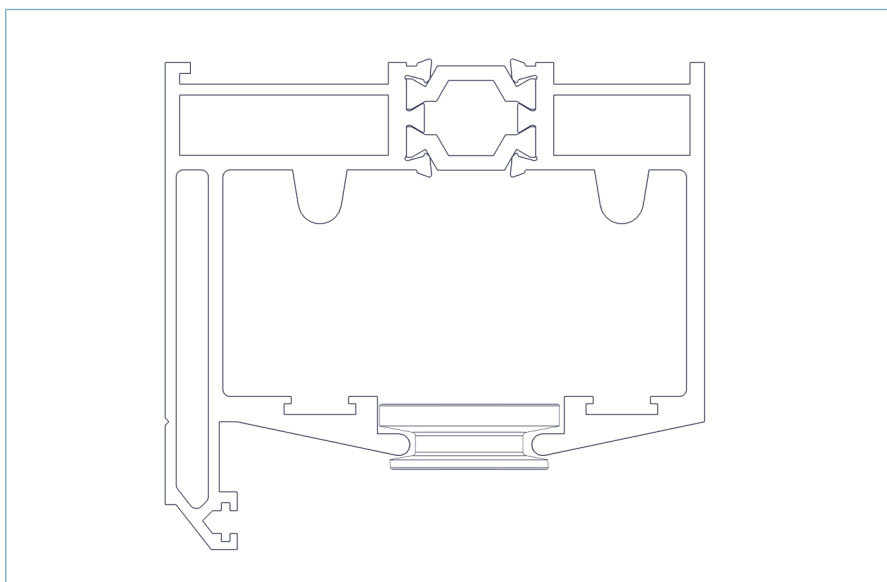

FIG 6C
- ▶ **6.3.** Install all top fork guide wheels and move down the track to the opposite end. The thicker side of the wheel should be on top as shown in FIG 6C.